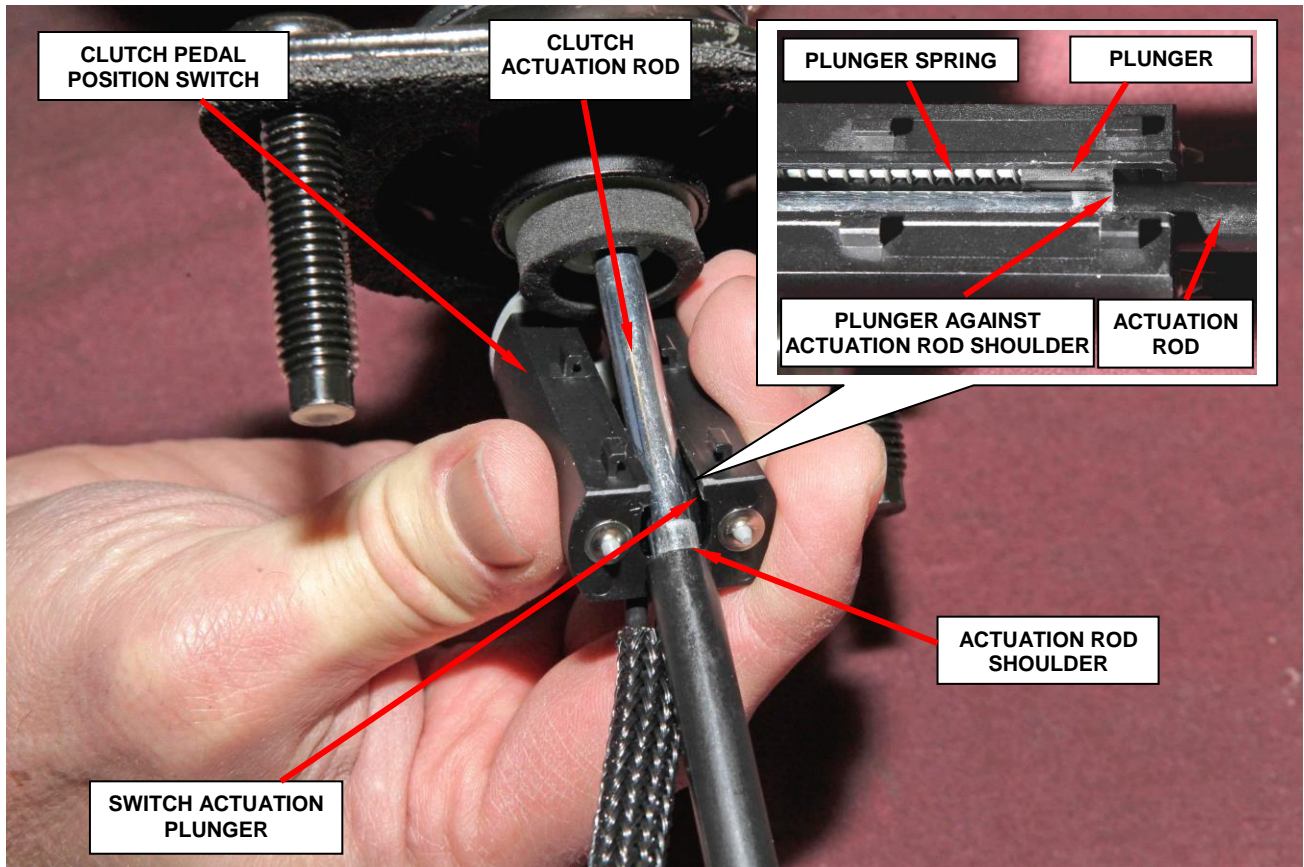

Figure 4 – Clutch Pedal Position Switch Installation
- a. Place the new switch against the clutch rod at an angle (Figure 4).